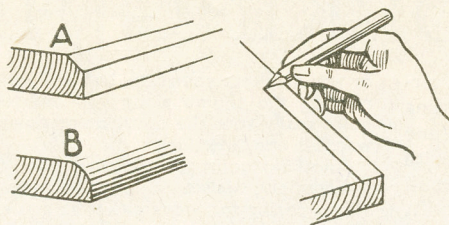

Fig. 4—Pencil mark the edge before shaping
see the result shown in (B) at Fig. 4.
A good plan—indeed, it is essential to get the right finish—is to mark your pencil line along the surface of the wood (see Fig. 4) to show the extent of your curve when the rounded portion is finished. The pencil point is drawn along with the finger pressed close to the edge, thus maintaining a straight line—providing the actual edge itself is straight. Then you can plane down some of the unwanted wood until you get a slope or chamfered edge, as you see at (A) Fig. 2.